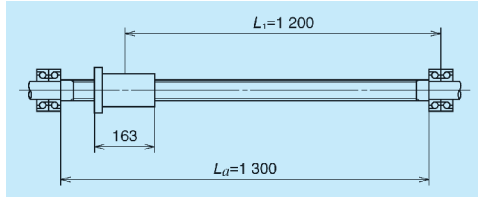

Fig. 17.5 Examination of buckling load
Calculate the buckling load for conditions shown in Fig. 17.5 with  $P$  of 10 354 (N) and  $L_1$  of 1 200 (mm).